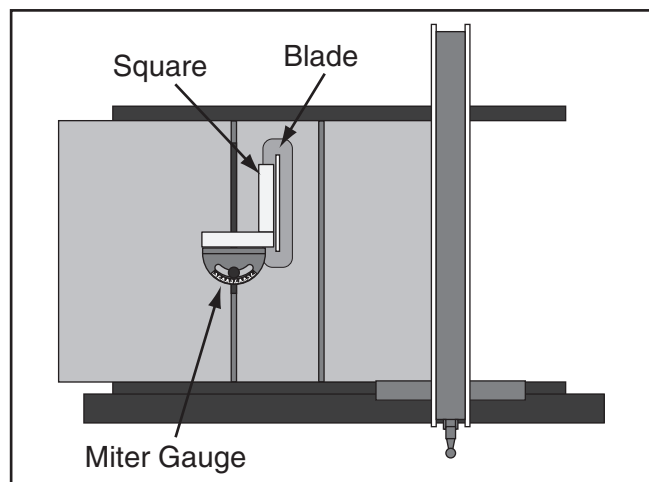

Figure 122. Checking 90° stop on miter gauge.
4. Place the square evenly against the face of the miter gauge and the blade, as shown in **Figure 122**.